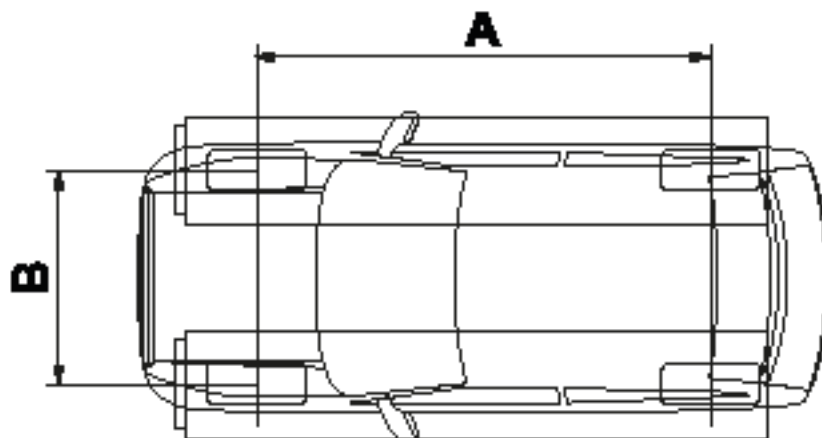

Fig. 2
- Minimum distance between lifting points (A) 3000 mm (Fig. 2).
- Minimum track width (B) 1700 mm (Fig. 2).